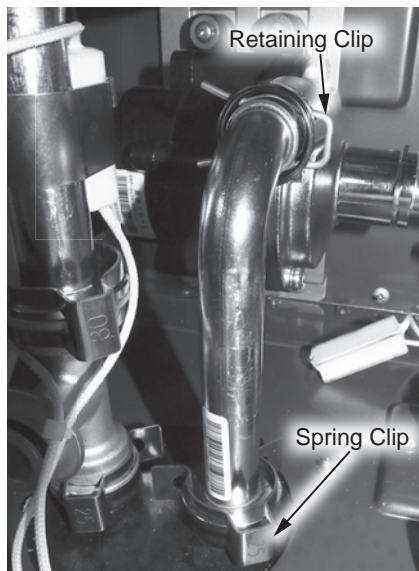

Figure 164 - Pump outlet tube location
- Locate the pump outlet tube. Remove the retaining clip securing tube to water pump. Locate and remove the spring clip (size 25) at the bottom of the pump outlet tube and disconnect tube from water connection and water pump. See Figure 164.